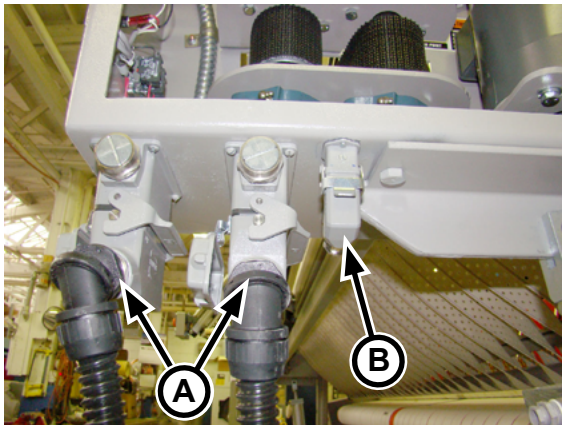

Figure 2-9: Electrical and communications receptacles.
1. Locate the electrical receptacles beneath the right end frame (Figure 2-9, A).
1. If the unit was shipped with the optional Interconnected Stop Circuit, it will be beneath the right endframe with the other connectors (Figure 2-9, B).